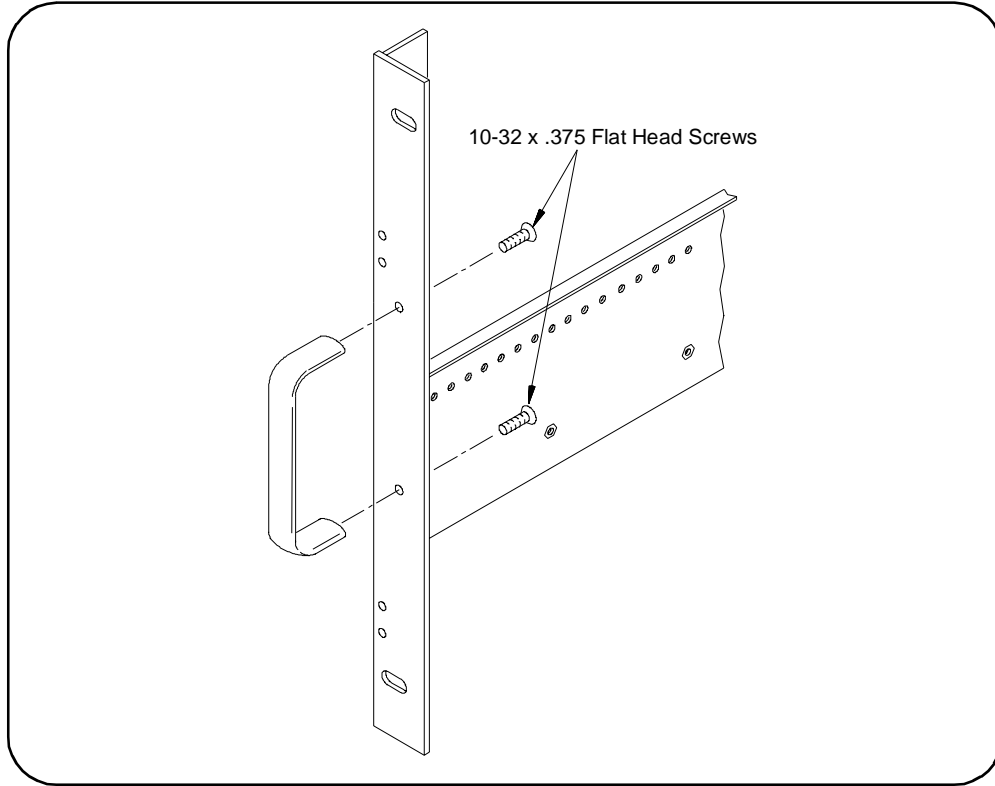

Figure 1 . Attaching Handles to the Adapters (Option AXA - kit p/n E8400-80923).
1. Attach the handles to the adapters using the 10-32 x 0.375 flat head screws (Figure 1). Handles are included only with the Standard adapters (Option AXA).